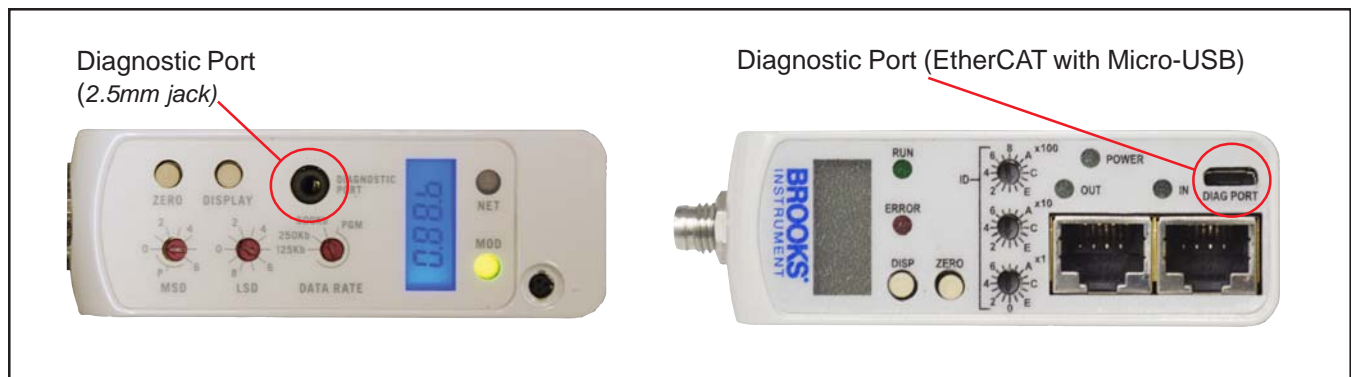

Figure 2-12 Diagnostic Port Locations
Connect the MultiFlo Cable Adapter 2.5mm jack to the Diagnostic Port on the top of the device. See Figure 2-12.
- Once use of the diagnostic port is complete, remove the micro-USB cable before removing power from the device. See Figure 2-12 below